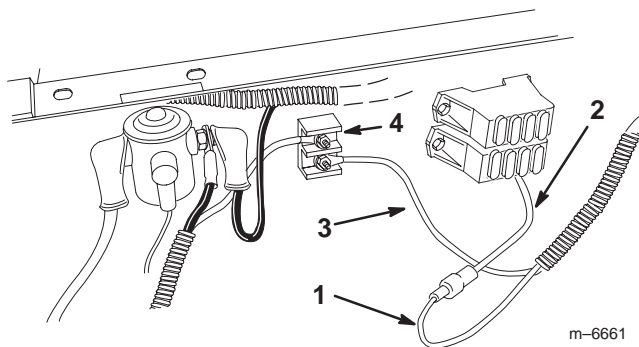

Figure 24
- 12.** Connect the middle lead with the eye ring connector to a ground stud on the ground terminal block (Fig. 24).